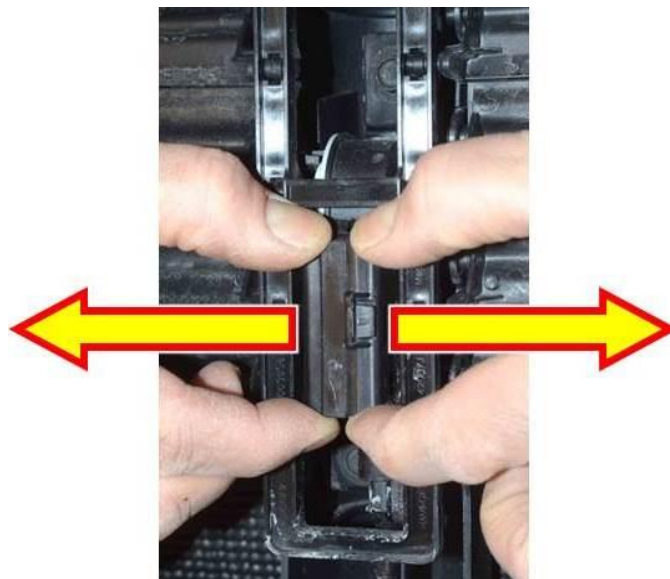

Fig. 7 Confirm Actuator Motor Case Housing Is Engaged
10. Grasp both halves of the actuator housing and apply outward pressure while inspecting for any separation movement between the housing halves (Fig. 7).